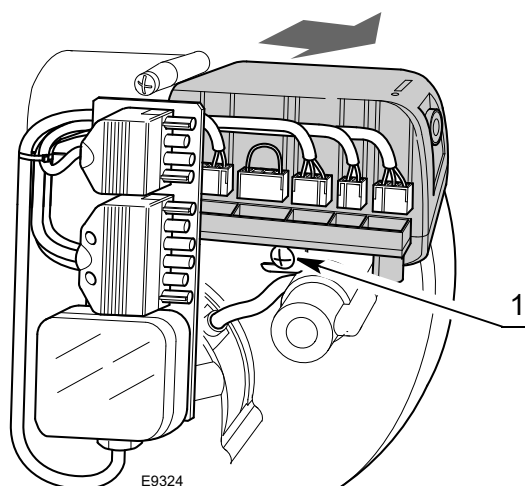

Fig. 17
- disconnect all the connectors connected to it, the 4-in plug, the 6-in plug, the high voltage cables, and the earth wire (TB);
- loosen the screw 1)(Fig. 17) and pull the control box in the direction of the arrow.
- tighten screw 1)(Fig. 17) with a tightening torque of  $1 \div 1.2$  Nm;